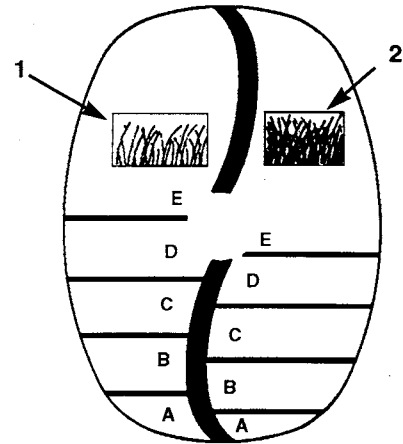

Figure 3
Toro's exclusive SmartWheel™ (Fig. 3) provides a simple method for determining the correct height of cut. The SmartWheel™ has two cutting scales—SPARSE/NORMAL and LUSH—to ensure the best height-of-cut setting in any mowing condition. Use the SPARSE/NORMAL scale during the warm summer season for most of your mowing. The LUSH scale is for thick, moist, succulent grass that grows most often in the spring.
1. Before starting the engine and beginning to mow, push the mower into the grass. Stop when the letters on the SmartWheel™ design on the left rear wheel are upright (Fig. 3).